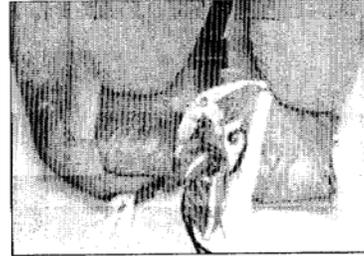
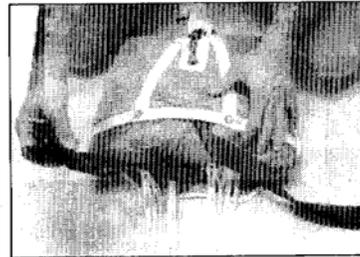
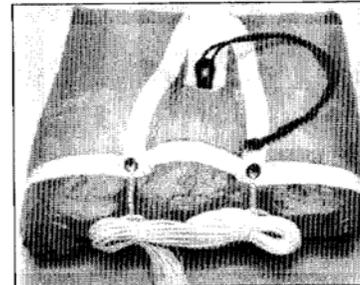

Figure 9
Figure 10
Figure 11
**Step 15** Take the molar and insert it directly into to the deployment bag so that the ears are on each side of the locking pull-up cord. *Figure 9* Make sure that the center of the bag around the grommets is clear of any material. **Remove the compression strap at this time.** *Figure 10* Lock the mouth of the bag with the two locking stows. *Figure 11*